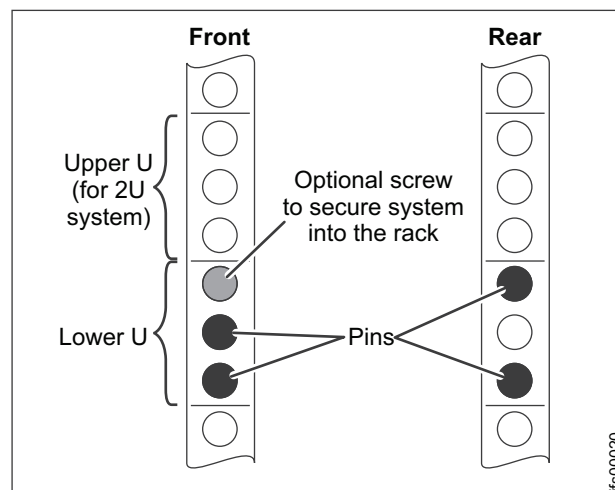

Figure 26. Locate a 2U space in the lower section of the rack.
2. Select an available 2U space in the rack to install the file modules. Refer to Figure 26.